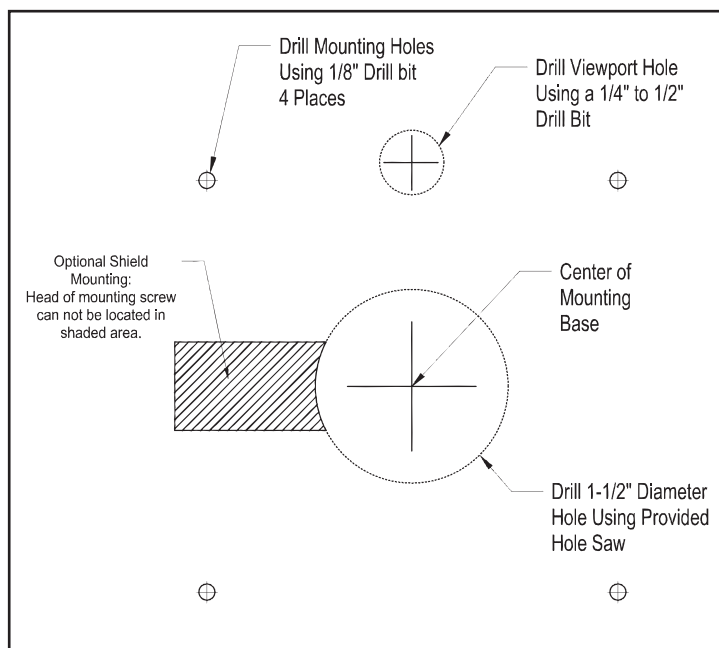

Figure 3
3. Drill $\frac{1}{8}$ " diameter mounting holes at positions indicated on template. (See Figure 3)
4. Cut out the large opening (1½" hole) on the template. (See Figure 3)
5. Using a ¼" to ½" drill bit, drill a viewport hole as indicated on the template. (See Figure 3)
8. Attach the UV-Aire mounting base onto the plenum with the supplied sheet metal screws. (Refer to template shown in Figure 3) This must be tight in order to activate the built in safety switch.